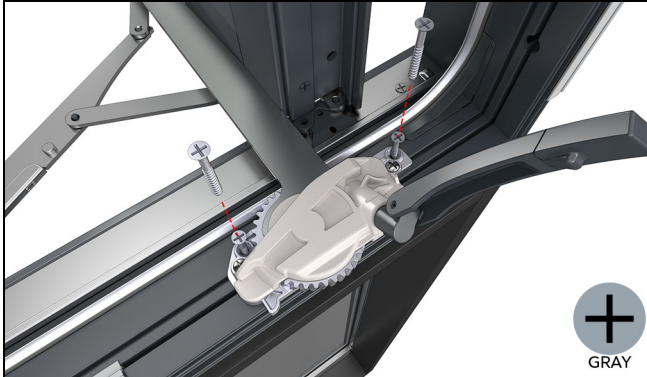

Figure 87
1. In some cases where the horizontal mull pin is not already fastened to the bottom of the window, you will need to attach the mull pin and then fasten through the hardware base with the 1 3/8" (35) screws found in the bag marked with the gray dot. Pre-drill with a 1/8" (3) drill bit. See Figure 87.